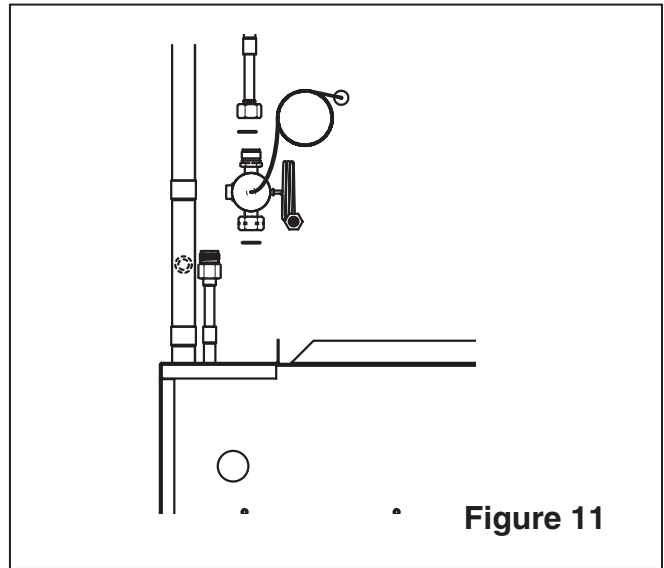

Figure 11
10. DO NOT oil threads. To install the TXV, install one new O-ring over the Distributor Fitting (Figure 11). Install the other new O-ring over the Liquid Line Fitting and connect the adapters by hand to ensure proper mating of threads. The new O-rings are supplied in the kit. Tighten until bodies “bottom” or a definite resistance is felt. The valve will only fit in one direction of flow. Use a back-up wrench and tighten an additional 1/6 turn.